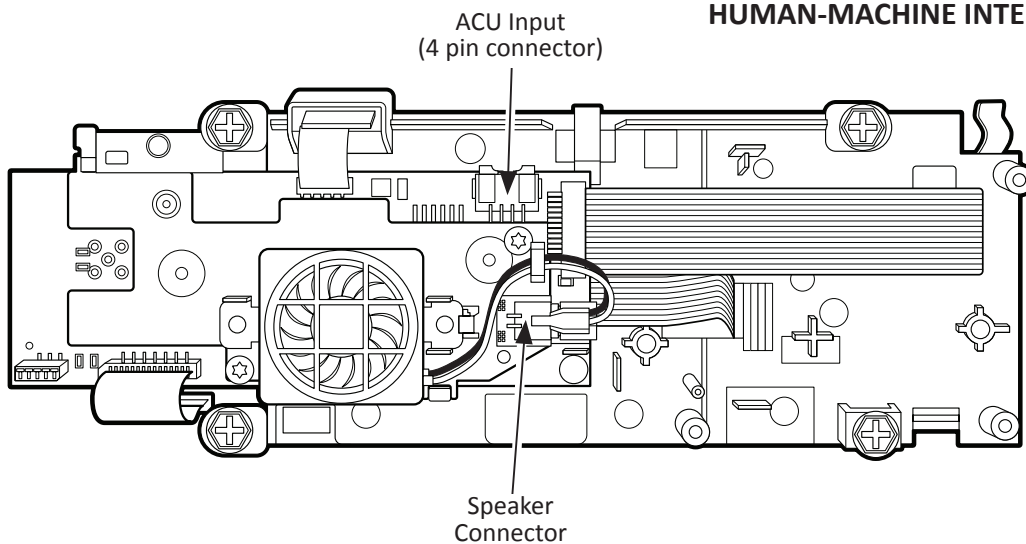

Figure 2 - Connector Locations on HMI
3. Visually check that all ACU connectors are inserted all the way into the ACU. See Figure 2, page 3-7.
4. Visually check that all HMI connectors are inserted all the way into the HMI (see Figure 2 below).